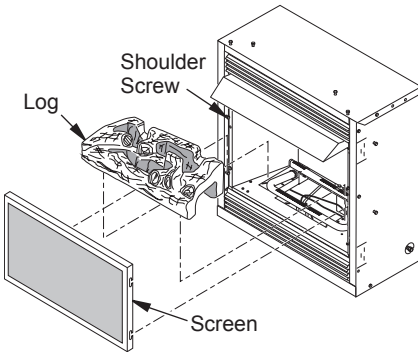

Figure 35 - Installing Log and Screen
1. Remove log packaging material and discard packaging. Gently place log over burner (see Figure 35). Do not allow log to contact flame. If flame contacts log, soot will be created.